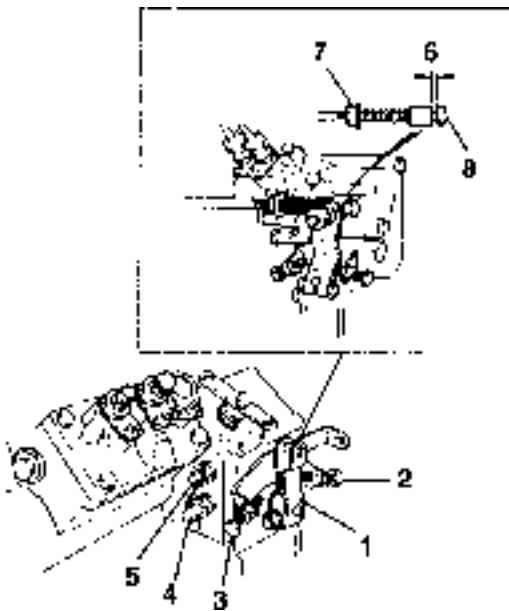

Fig. 92. Setting engine speed (RPM)
1. Check that gap (6) (Fig. 92) is approximately 3 mm when the throttle mechanism is in the idling position. If necessary: Slacken off the locknut (7) and adjust until the correct gap is obtained with the screw (8).
3. If necessary, adjust to the correct idling speed using the adjustment screw (2).
4. Check gap (3) again according to point 1.